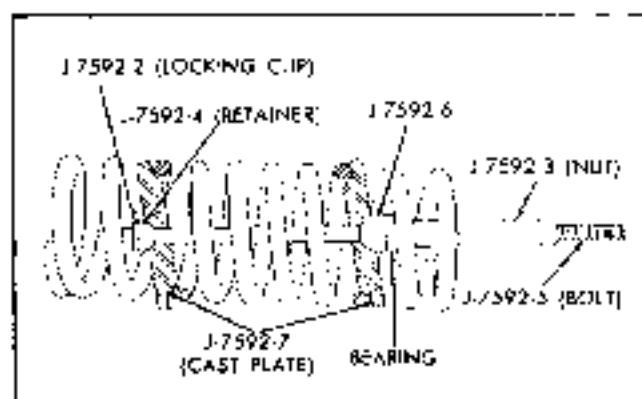

Fig. 3-9 Pontiac Coil Spring Compressor J 7592
5. Install spring compressor J 7592-01 (Fig. 3-9).
1. If spring is to be replaced, assemble compressor J 7592 on a new spring (Fig. 3-9).